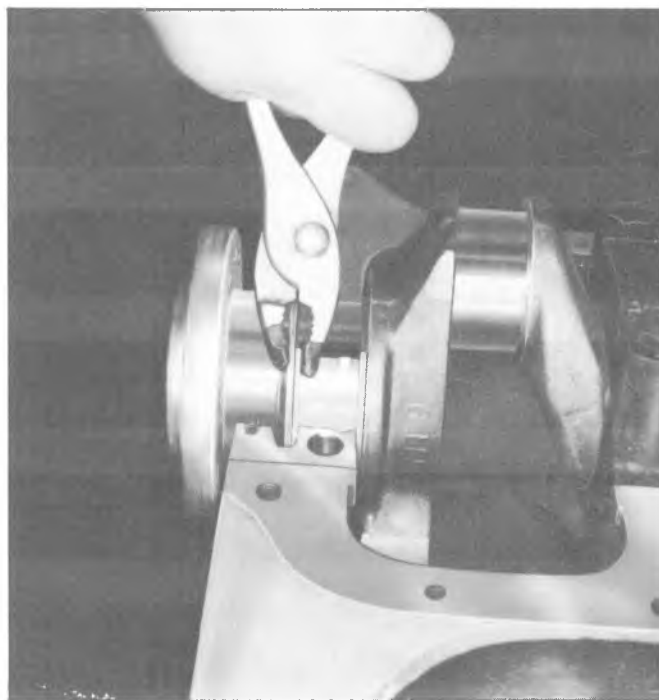

Fig. 6A-54--Replacing Upper Main Bearing
- b. Use a pair of pliers (with taped jaws) to hold the bearing thrust surface to the oil slinger and rotate the crankshaft to remove bearing (fig. 6A-54).